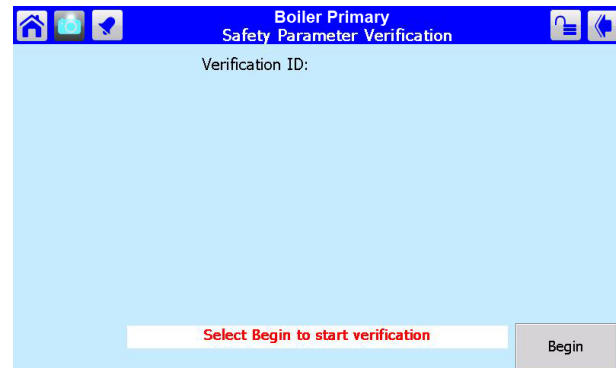

Figure 33. Reset Button on Controller
9. In a moment, you will need to reset the controller by pressing a button on the front of the unit. See Figure 33. The controllers for the two boilers are mounted behind the door on the front of the unit.